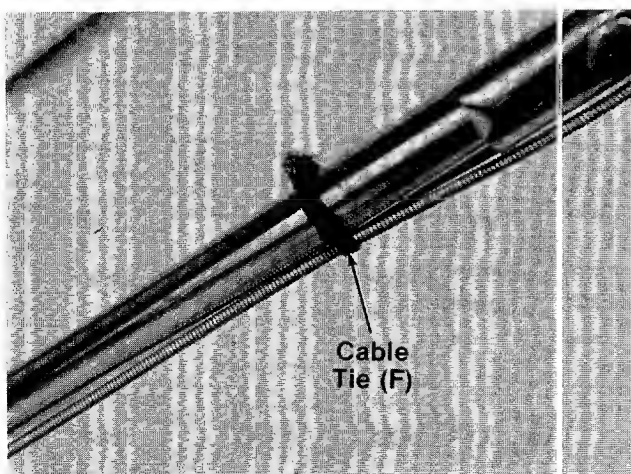

FIGURE 9.
16. Secure throttle control and brake cables to upper and lower handles with cable ties (F). See figure 9.